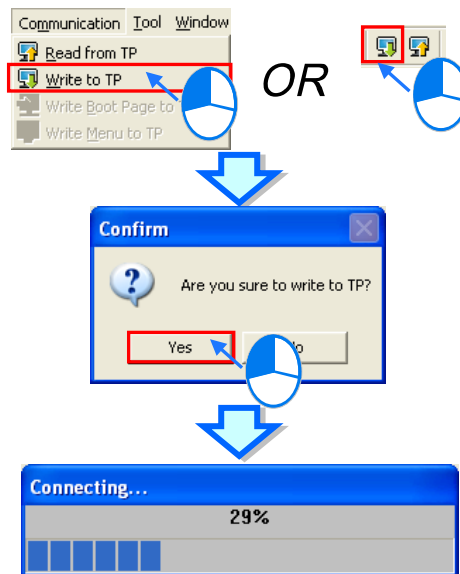

Figure 6-5 Downloading a project
After the users click **Write to TP** on the **Communication** menu or  on the standard toolbar, the **Confirm** window will appear. After the users click **Yes** in the **Confirm** window, the window showing the percentage of progress in downloading the project created will appear, as shown in Figure 6-5.
- Step 8: After the users click **Write to TP** on the **Communication** menu, the **Confirm** window will appear. After the users click **Yes** in the **Confirm** window, the page designed will be downloaded to aTP04G series text panel, and the window showing the percentage of progress in downloading the project created will appear, as shown in Figure 6-5.